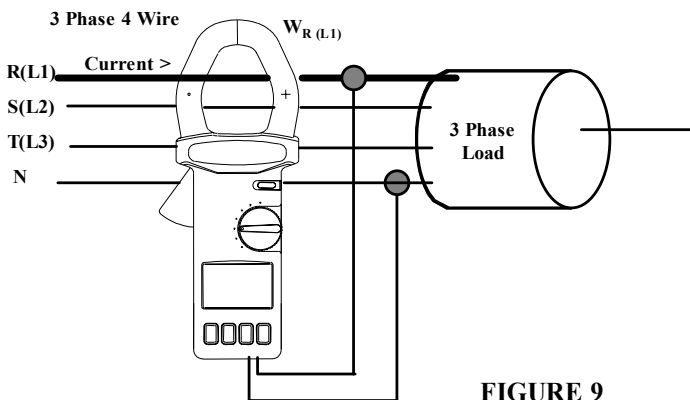

FIGURE 9
1. First, measure  $W_R$  (or  $W_{L1}$ ) (Fig. 9).